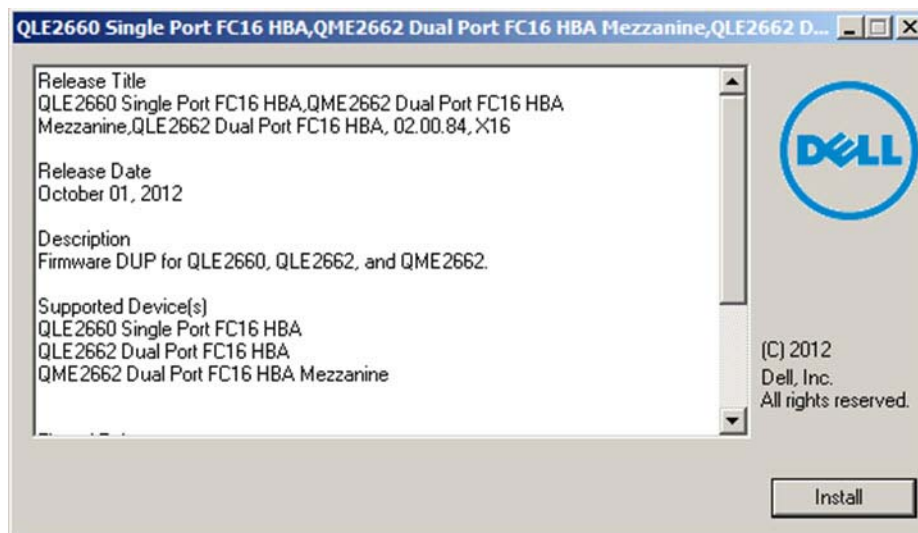

Figure 3-1. Dell Update Package Splash Screen
1. Double-click the icon representing the firmware DUP file. When the DUP splash screen appears (Figure 3-1), click **Install** to continue.